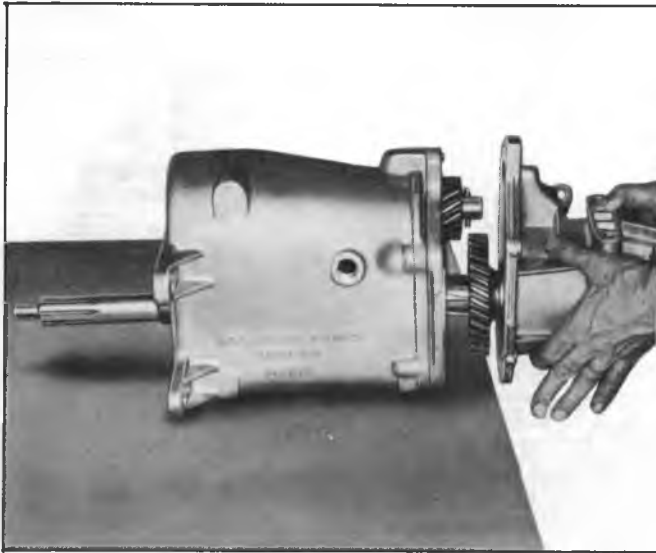

Fig. 19B—Installing Case Extension
18. Pull reverse shifter shaft to left side of extension and rotate shaft to bring reverse shift fork forward in extension (reverse detent position). Start the extension onto the transmission case (fig. 19B), while slowly pushing in on the shifter shaft to engage the shift fork with the reverse gear shift collar. Then pilot the reverse idler shaft into the extension housing permitting the extension to slide onto the transmission case.